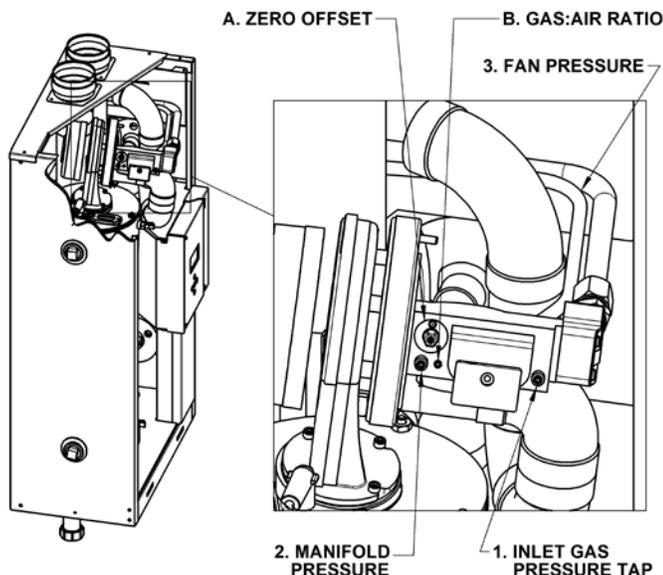

Figure 38: Gas Valve and Pressure Reference System
To verify the proper operation of the gas valve in the field, the following procedure can be carried out by a qualified technician (see Figure 38).
3. With a combustion analyzer probe in the flue gas test port, turn the Gas:Air Ratio Adjustment screw (see Figure 38, "B") to achieve 25% excess air (see Table 8 below for corresponding CO₂ values - set for CO₂ at high fire). This screw offers very fine adjustment, and may require several turns.